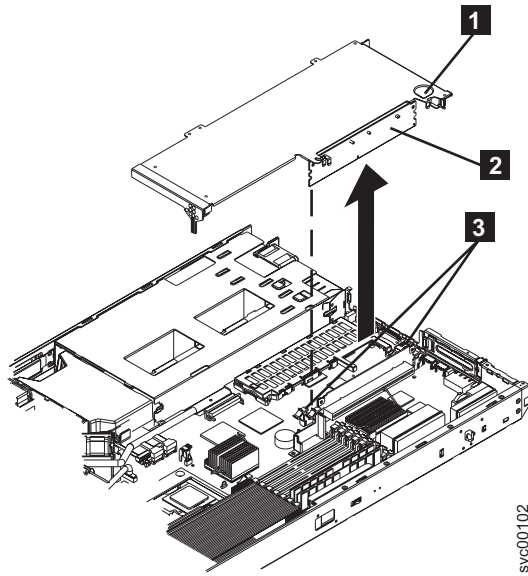

Figure 144. SAN Volume Controller 2145-8F2 or SAN Volume Controller 2145-8F4 slot 2 adapter
- a. Open the retaining clips on both sides of the slot 2 riser card (**2** in Figure 144 on page 160) by pushing the clips down and away from the riser card until the clips are no longer attached to the riser card.